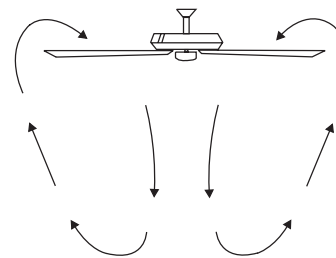

Fig. 27
**Warm Weather Operation:** Forward (counter clockwise). A downward airflow creates a cooling effect (Fig. 27). This allows you to set your air conditioner on a warmer setting without affecting your general comfort.